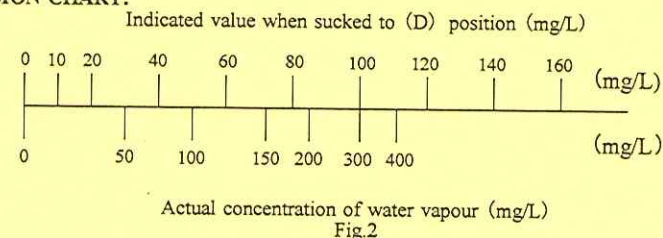

Fig.2
Conversion chart for (D) are shown in the following Fig.2.